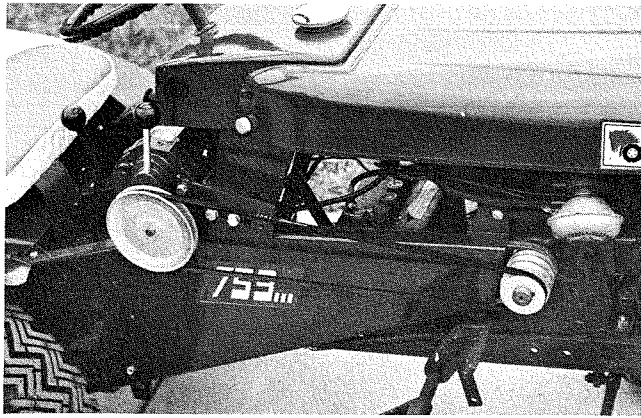

Figure 7
10. Install the $2\frac{1}{4}$ pulley (part number 4811) to engine using square key (part number 1433) and set screw (part number 909848-4). Install the 5" pulley (part number 4812) to pump using $\frac{5}{16}$ set screw (part number 909862-4). Place the drive belt over the two pulleys and adjust belt by installing the $\frac{3}{8}$ -16 x $2\frac{3}{4}$ Hex Head Cap Screw (part number 1093) and tightening until belt has the proper tension. Tighten the two (2) $\frac{3}{8}$ -16 x $\frac{3}{4}$ Hex Head Cap Screws to secure pump. Install belt guard (part number 4814) using the $2\frac{1}{8}$ pipe spacer (part number 4828) in front, the $2\frac{1}{4}$ pipe spacer (part number 4829) towards the rear and the two (2) $\frac{5}{16}$ -18 x $2\frac{3}{4}$ Hex Head Cap Screws (part number 908026-4). (See Figure 7 and 9)